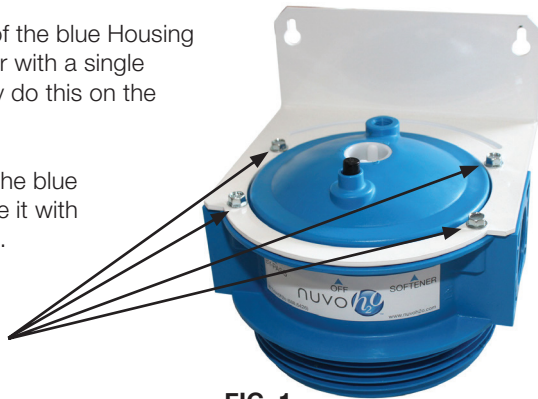

FIG. 1
- 5 Attach the L-Bracket to the blue Housing head and secure it with the four screws provided. See FIG. 1